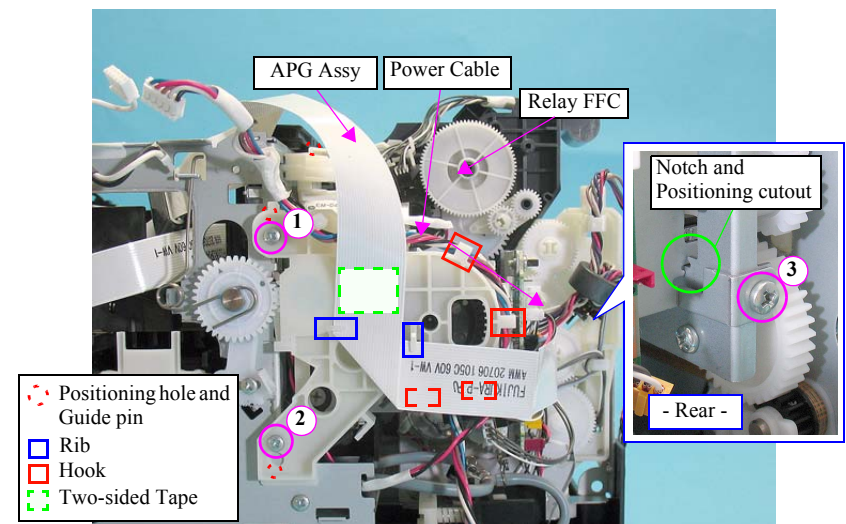

Figure 4-122. Removing the APG Assy (2)
- When installing the APG Assy, insert the two guide pins of the APG Assy into the positioning holes of the Main Frame as shown in Figure.4-122.
- When installing the APG Assy, attach the notch of the APG Assy to the positioning cutout of the Main Frame as shown in Figure.4-122.
- Tighten the screws in the order indicated in Figure.4-122.